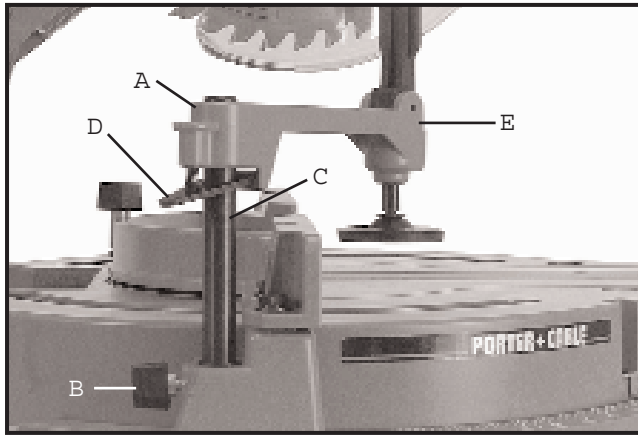

Fig. 22
1. The height of the work clamp (A) Fig. 22, can be adjusted by loosening lock knob (B) and moving post (C) up or down, or depressing lock lever (D) and sliding clamp body (E) up or down. After height of clamp (A) is adjusted, tighten lock knob (B) and/or release lock lever (D).